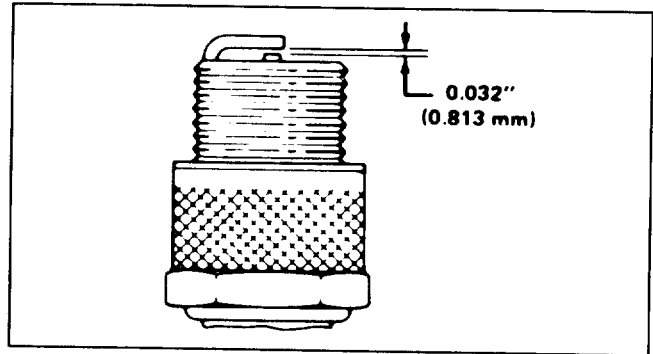

Figure 17
3. INSTALL SPARK PLUG—Set air gap (Fig. 17) between electrodes at .032" (.81 mm). Install plug and tighten to 15 ft-lb (20.4 N-m). If torque wrench is not used, tighten plug firmly. Push wire